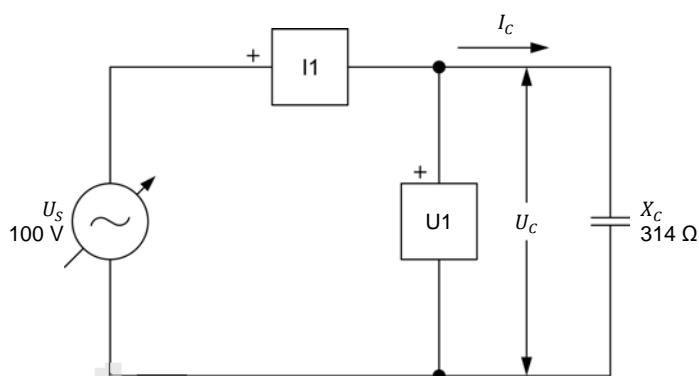

Figure 3-7. AC circuit containing a capacitor and set up for power measurements.
32. Set up the circuit shown in Figure 3-7.